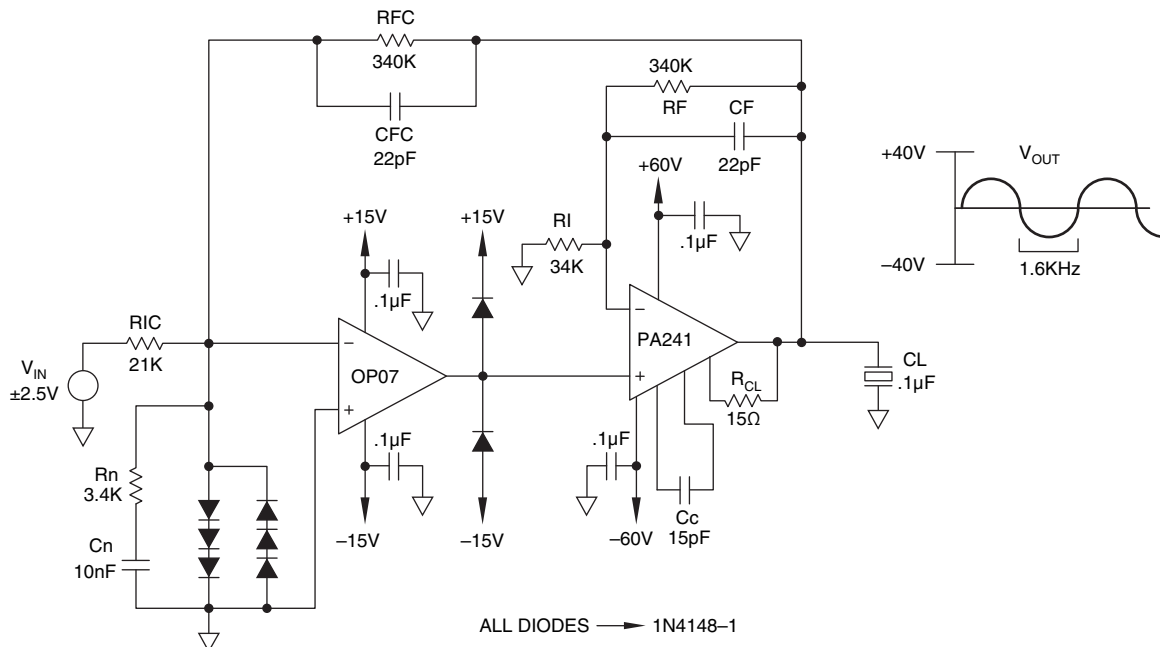

FIGURE 33. PA241 COMPOSITE PIEZO TRANSDUCER DRIVE
the power op amp for linear analog control, but can optimize the front end of the circuit to meet the required specifications. A composite amplifier such as Figure 33 (see following page) will provide a highly accurate 75uV input offset voltage versus the 40 mV input offset voltage of the PA241. In the composite amplifier, the PA241 acts as a booster running in a closed loop gain of 11. The PA241 "booster" and the OP07 form a new composite amplifier with the feedback from output all the way
The application in Figure 33 (next page) provides an excellent opportunity for us to utilize our knowledge of stabilizing circuits
We will run the booster amplifier in a closed loop gain of 11 as shown in Figure 33 to allow more margin to work with when compensating the capacitive load. We know this from experience in designing many power op amp circuits with capacitive loads on the output.
P.S. — Refer to Figure 33. The 1N4148-1 diodes on the input of the OP07 provide differential and common mode overvoltage protection from transients through CFC. Piezo elements being electromechanical devices can generate high voltages if shocked mechanically. Output diodes of the OP07 prevent overvoltage transients that occur through CF and shunted through PA241 internal input protection diodes, from damaging the output of the OP07 connected to +input of PA241.